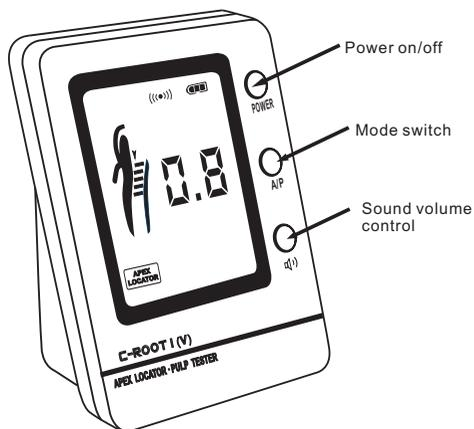
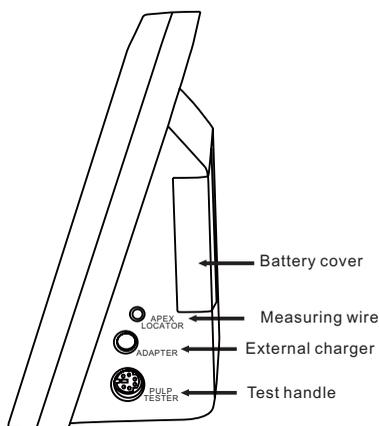

Fig.1
Fig.2
Congratulations on the purchase of C-Root I (V), as an apex locator which is precise, ergonomic, and able to determine the exact working length in seconds, as a pulp tester which is a wise assistant to judge the pulp vitality. (Fig.1)(Fig.2)